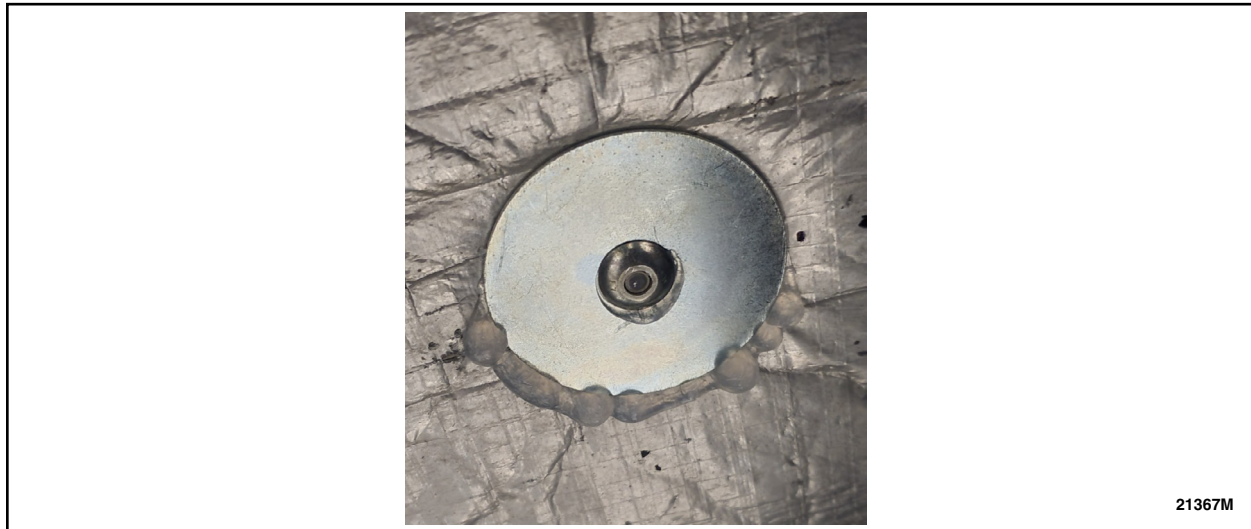

FIGURE 10
11. Using a M18-1/4" rivet gun, install the rivet and washer to the drilled hole. See Figure 10.